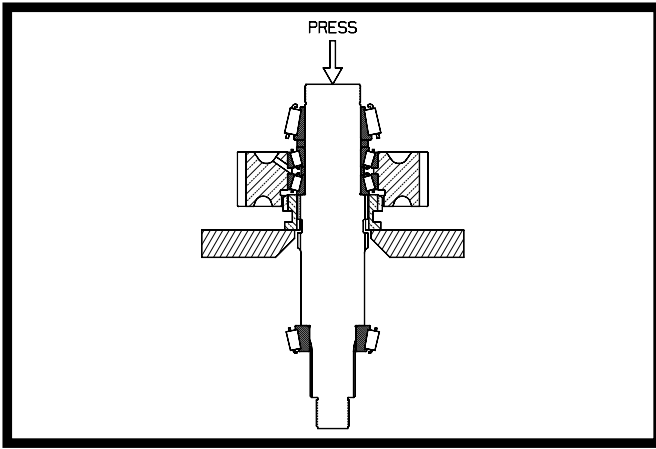

Figure 4.19
3. Place the shaft assembly in a press so that the clutch collar is supported and the press arbor bears against the end of the shaft. **Do not support the assembly by the gear.** See Figure 4.19. Remove the (3) bearing cone assemblies, the gear assembly, the (2) spacer rings, and the clutch collar.